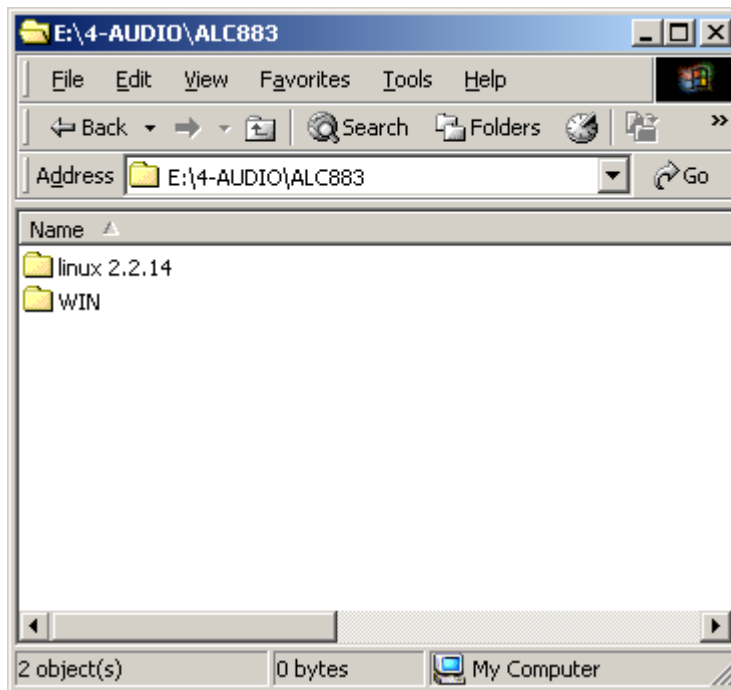

Figure 7-43: Select the OS
Step 4: Double-click the appropriate operating system folder (Figure 7-43).